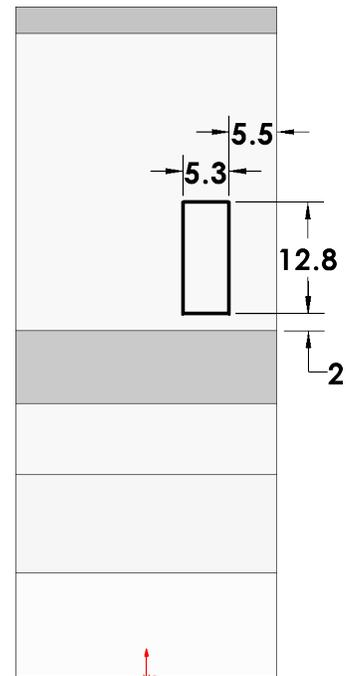

Fig. 32
Step 4. Sketch **corner rectangle** on the bed, **Fig. 32**.
Step 6. Add dimensions, **Fig. 32**.